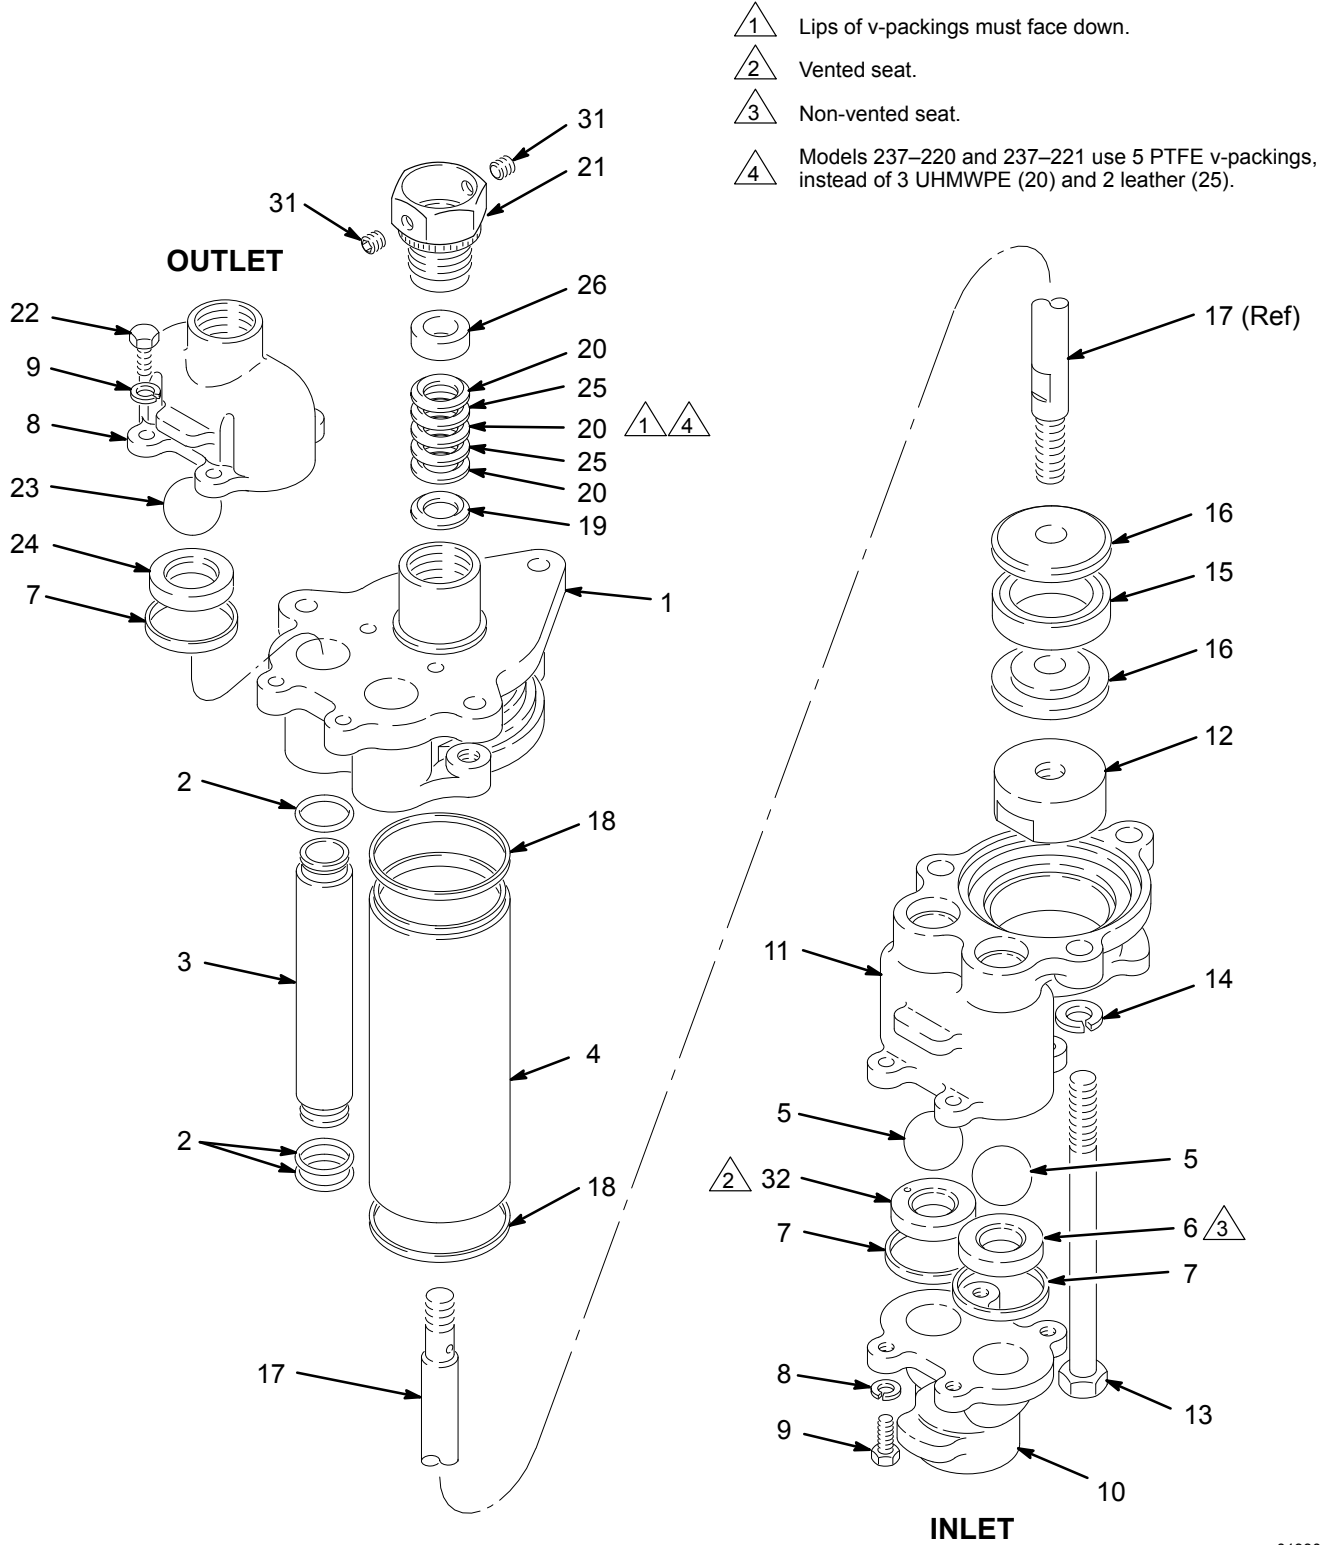
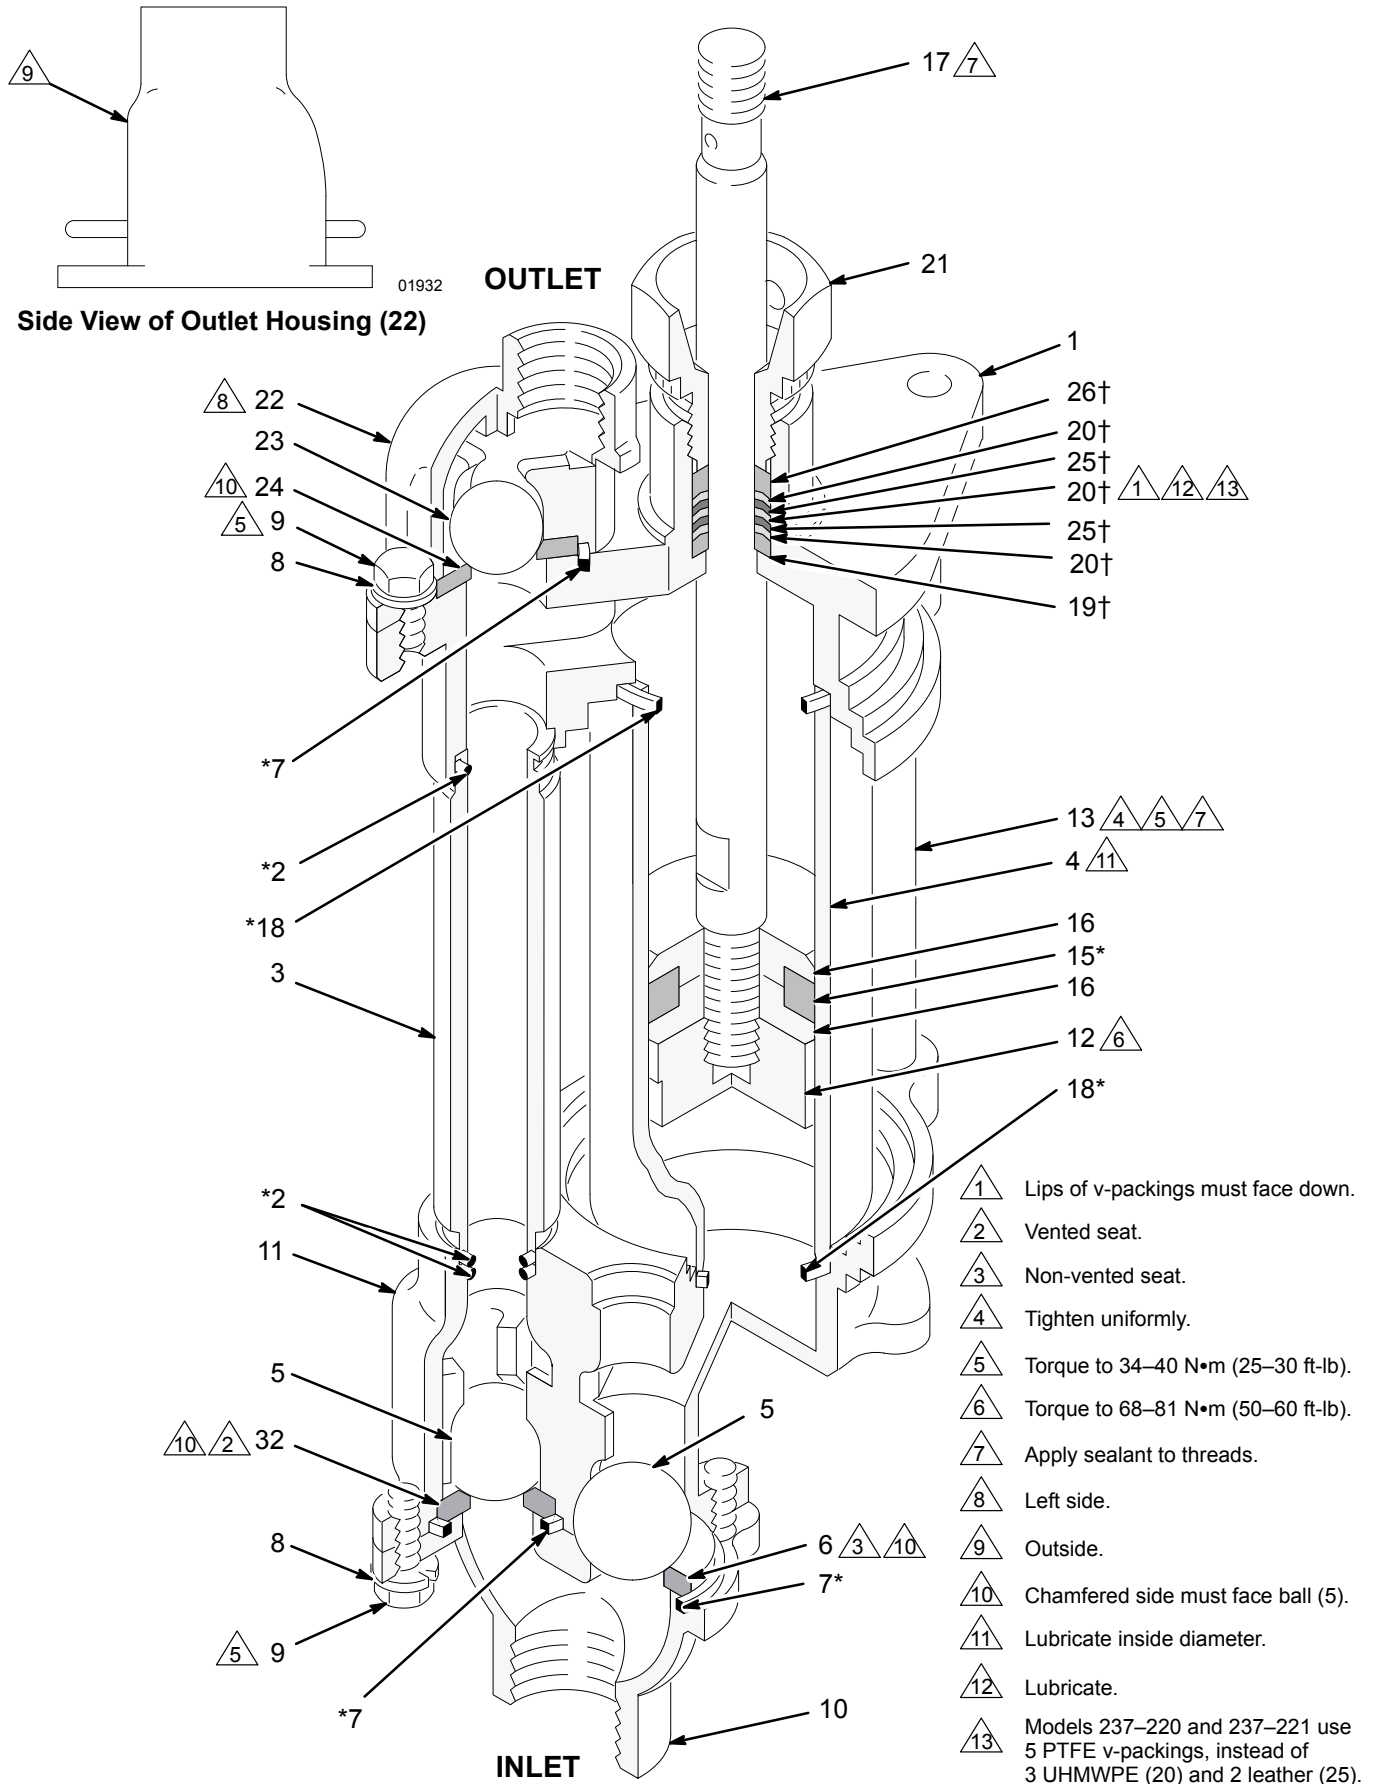

Fig. 9
Fig. 10
2. Secure the displacement pump intake housing (10) in a vise.
3. Refer to Fig. 9. Remove the four capscrews (9) and washers (8) from around the pump outlet housing (22).
4. Remove the outlet housing (22), balls (23), seats (24) and gaskets (7).
5. Remove the three tie bolts (13) and lockwashers (14). Lift off the upper pump housing (1), along with the fluid tubes (3), cylinder (4), and piston assembly (16).
6. Remove the packing nut (21), glands (19, 26) and packings (20, 25) from the upper housing (1).
**NOTE:** Model 237–220 and 237–221 displacement pumps use 5 PTFE v-packings in the throat, instead of 3 UHMWPE (20) and 2 leather (25).
7. Remove the tubes (3) and cylinder (4) from the housing.
8. Remove the intake housing (10) from the vise.
9. Remove the four capscrews (9) and washers (8) from the intake housing (10). Use a flatblade screwdriver inserted between the lower pump housing (11) and the intake housing (10) to separate the parts.
10. Remove the balls (5), seats (6 and 32) and gaskets (7).
**NOTE:** One of the seats (32) has a vent hole. Take note of the side of the pump in which this seat is used (the left side when viewed as shown in Fig. 9).
1. Place the two halves of the piston (16) around the packing (15\*) and snap them together. See Fig. 10.
2. Apply thread sealant to the piston rod (17) threads. Screw the rod through the piston and packings and into the special piston nut (12). Torque the nut to 68–81 N•m (50–60 ft-lb).
3. With the lower pump housing (11) turned upside down, install the balls (5). Install the seats; place the vented seat (32) in the left side as viewed in Fig. 9 (housing has a label to identify the correct side), and the non-vented seat (6) in the right side. Install the gaskets (7\*).
4. Place the intake housing (10) on the lower pump housing (11). Install the lockwashers (8) and capscrews (9). Torque to 34–40 N•m (25–30 ft-lb). See Fig. 10.
5. Place the intake housing (10) in a vise. Place one o-ring (2\*) **in each side of the lower pump housing (11)** where the tubes (3) sit. Place another o-ring (2\*) **in the grooves at each end of the tubes**. Place a gasket (18\*) in both the upper and lower housings (1 and 11). Position the tubes and cylinder (4) in the lower housing (11).
6. Lubricate the inside of the cylinder (4). Slide the piston assembly into the cylinder.
7. **Lubricate the throat packings and glands.** Install them one at a time in the throat of the upper pump housing (1). Make sure the lips of the v-packings face down into the housing, and use a finger to seat the parts: the male gland (19†), one UHMWPE packing (20†), one leather packing (25†), UHMWPE, leather, UHMWPE, and the female gland (26†). Install the packing nut (21) finger-tight.
8. Install the upper pump housing (1). It may not seat well on the tubes and cylinder. Apply thread sealant to the threads of the three tie bolts (13). Install the bolts and lockwashers (14) from the lower pump housing (11). As you tighten the bolts into the upper housing (1), they will draw the housings firmly onto the tubes and cylinders. Tighten the bolts uniformly and torque to 34–40 N•m (25–30 ft-lb).
9. Torque the packing nut (21) to 68–74 N•m (50–55 ft-lb).
10. Place a ball (23), seat (24) and gasket (7\*) in each side of the outlet housing (22). Install the outlet housing on the upper pump housing (1). Note that the flatter side of the housing faces the **outside** edge of the pump. Install the lockwashers (8) and screws (9), and torque to 34–40 N•m (25–30 ft-lb).